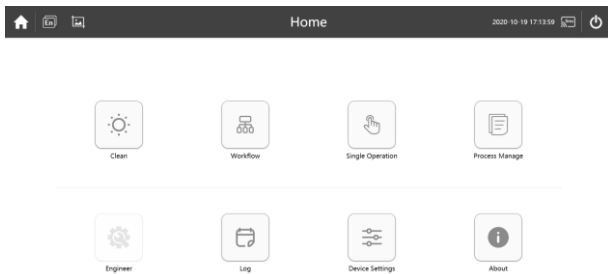

Figure 3 Home Interface
- 3) Click **"Initialize"**. When the home interface is displayed (as shown in following figure 3), the device is connected successfully, and you can go to the next step.